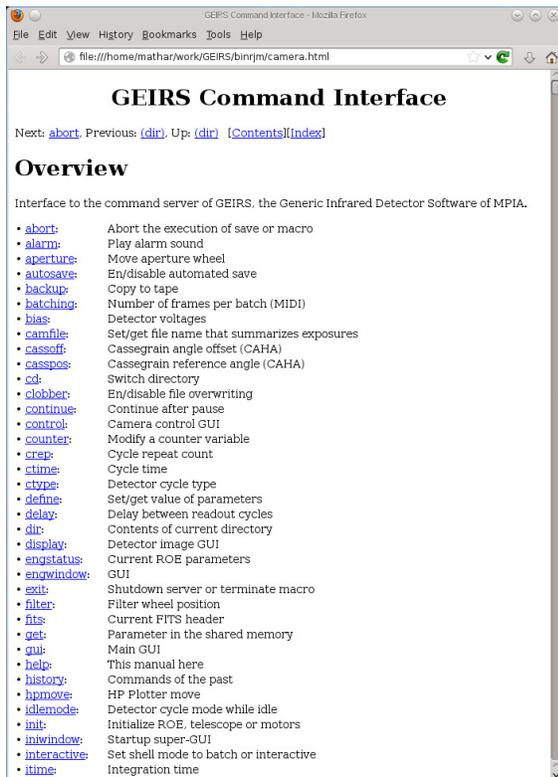

Figure 13: The web browser called by the Help button in Figure 12.
- **Help** Opens a web browser which shows a HTML version of the command list, similar to Figure 13, equivalent to the contents of Section 5.3. This will fail if the environment